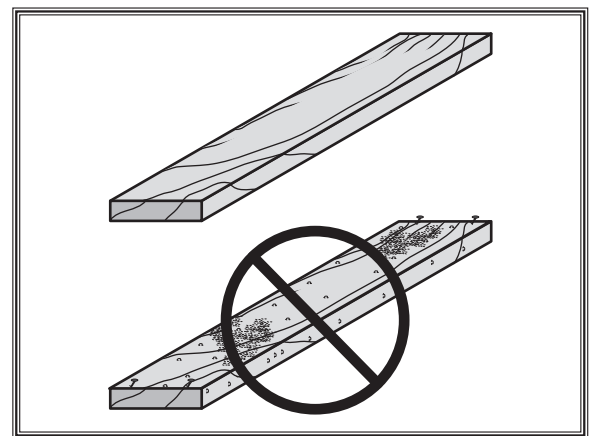

Figure 38. Selecting the board without embedded foreign materials.
- **Foreign Objects (Figure 38):** Nails, staples, dirt, rocks and other foreign objects are often embedded in wood. While cutting, these objects can become dislodged and hit the operator or break the blade, which might then fly apart. Always visually inspect your workpiece for these items. If they can't be removed, DO NOT cut the workpiece.